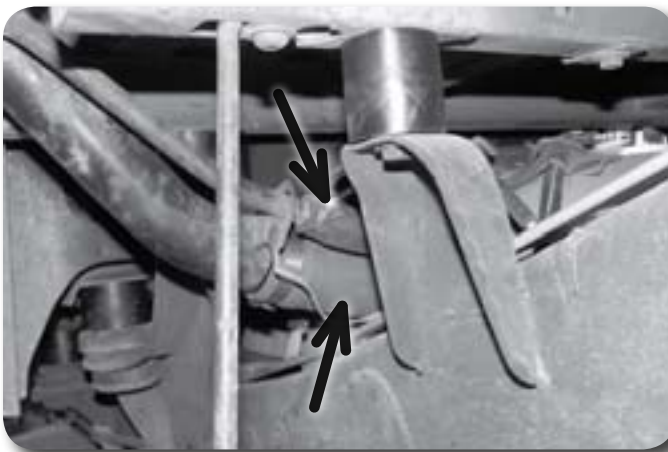

Figure 29
58. Install the filler neck assembly in the vehicle and attach the filler and vent hose to the fuel tank with the provided hose clamps **Figure 29**.